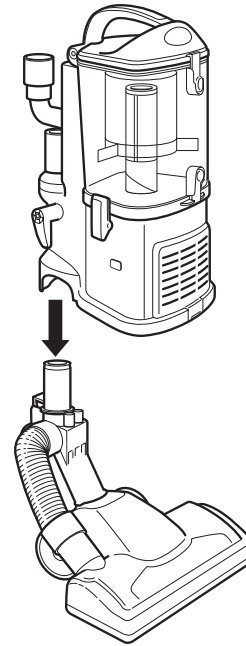

Fig. 8
- 2 Align the detachable canister over the tube on the floor nozzle. Lower the canister onto the floor nozzle until it clicks securely into place. **(Fig. 8)**